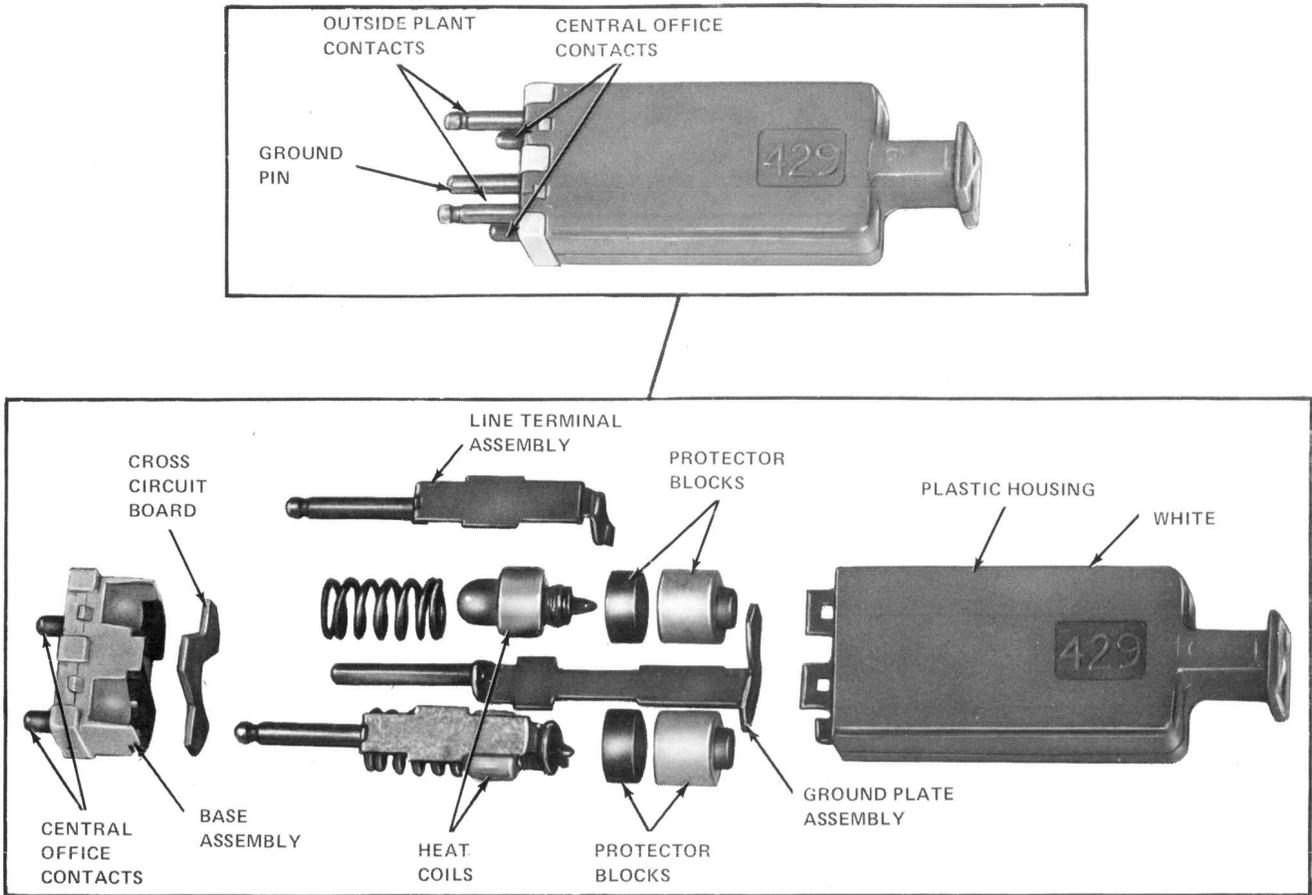

Fig. 8—429F Plug (Line Reversing)
2.06 The 429F plug provides both voltage and sneak current protection. A circuit board (Fig. 8) transposes tip and ring and the plug is identified with an "X" cross on the face of the handle.